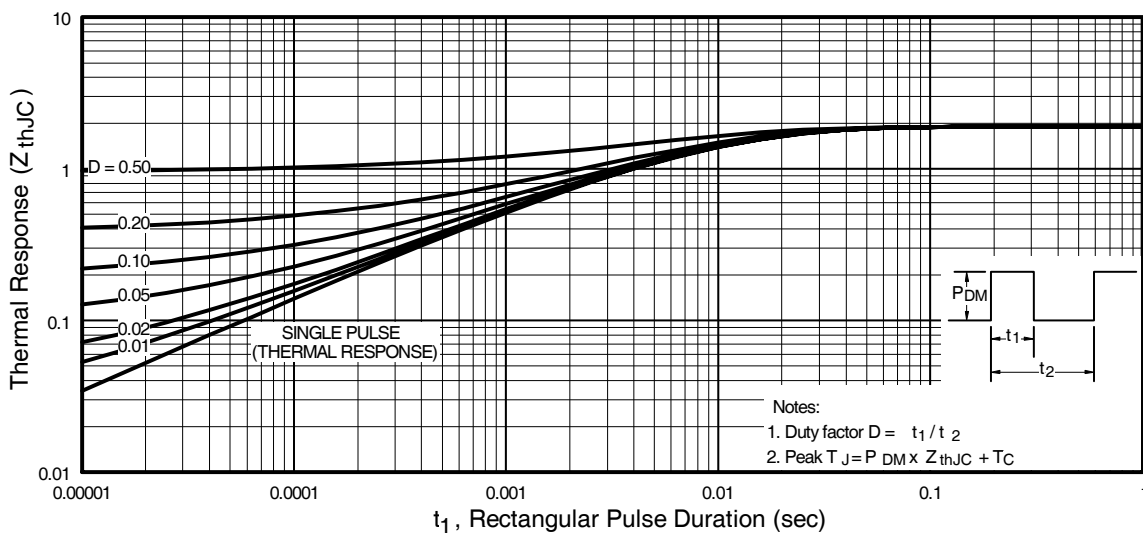

Fig 11. Maximum Effective Transient Thermal Impedance, Junction-to-Case
① Repetitive rating; pulse width limited by max. junction temperature. (See fig. 11)
② Starting $T_J = 25^\circ\text{C}$, $L = 7.0\text{mH}$